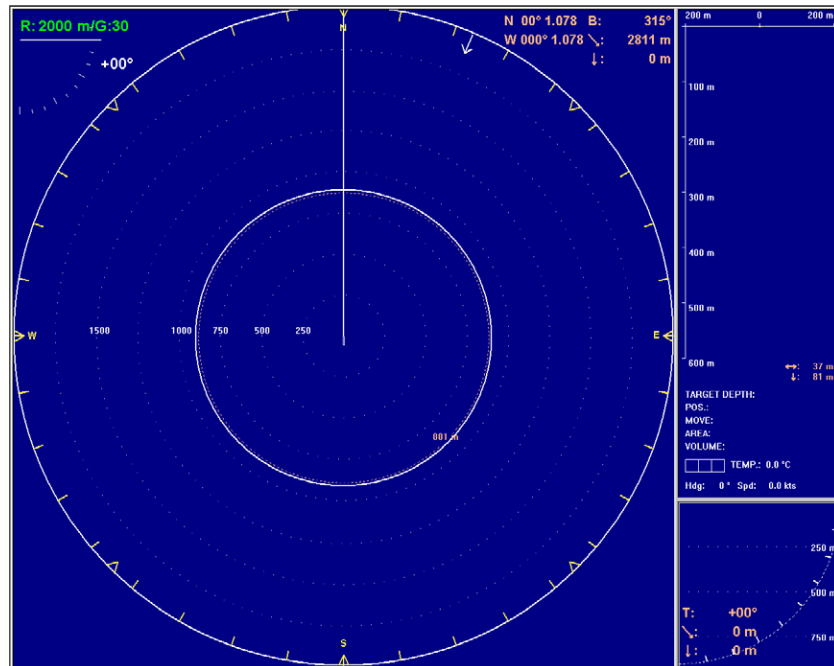

Figure 10 Full screen presentation without menu
- A full screen presentation with the menu disabled is shown in figure 10.